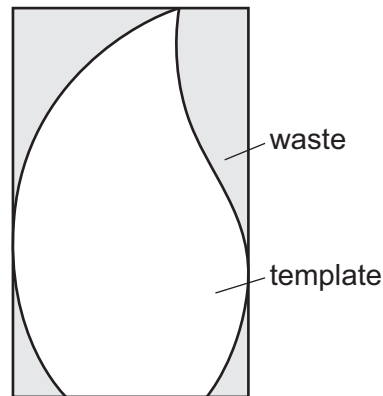

Fig. 11.2
- (b) Fig. 11.2 shows a template that could be used to mark out the shape of one of the parts of the trophy.